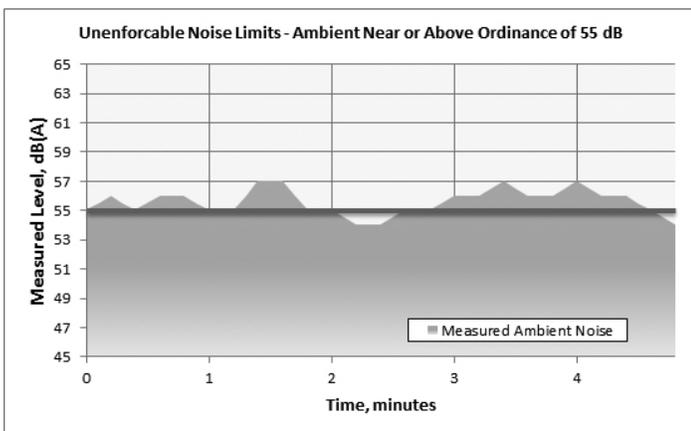

Figure 2 - Ambient Noise Conditions
Municipal codes should be reviewed and assessed to make ensure that their requirements are achievable. A common requirement is an upper limit of 70 dB(A) during the day. The noise floor due to human activity (traffic, etc.) can easily bring the ambient conditions above 55 to 60 dB(A) during the daytime (Figure 2). Certain activities such as yard work (lawn mowing, leaf blowing, snow removal) will exceed such ordinances on a regular basis.